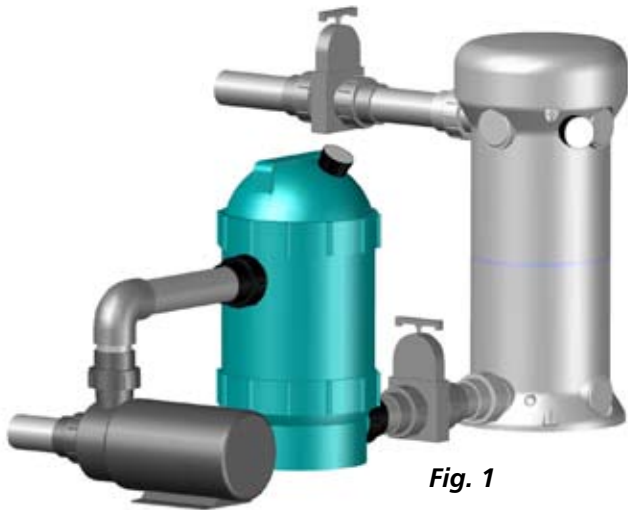
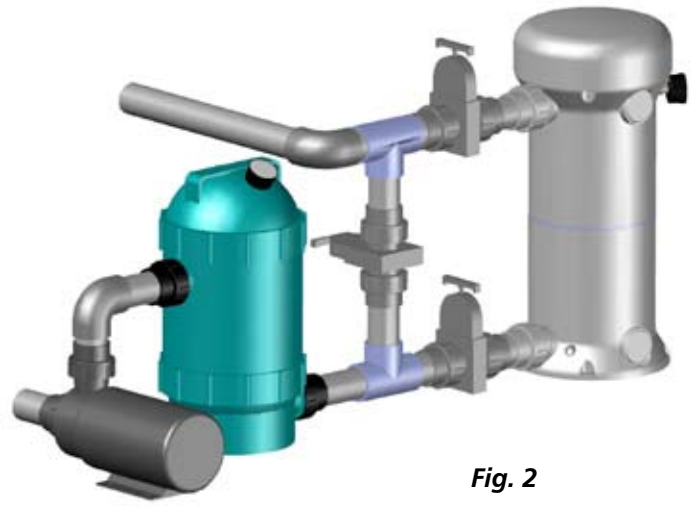

Fig. 1
Fig. 2
6.4 Plumbing The Series 2 Unit – Your SER 2 unit will need to be plumbed into your vessel's circulation system. The Fig. 1 diagram below shows how the unit is to be plumbed. Note that the water is to be piped from the pressure side of the pump and after the filter, in and out of the SER 2 unit. The inlet for the water is at the bottom plumbing openings of the SER 2 unit, and the outlet is at the top plumbing opening of the SER 2 unit. Inlet and Outlet openings are marked on the reactor surface. If your pump exceeds the maximum flow rate of the SER 2 unit you have selected, installation of a plumbing bypass will be necessary to bypass some of the pump's flow around the SER 2 unit so the maximum allowable design flow rate that the SER 2 unit can accommodate will not be exceeded. A typical bypass arrangement is shown in Fig. 2